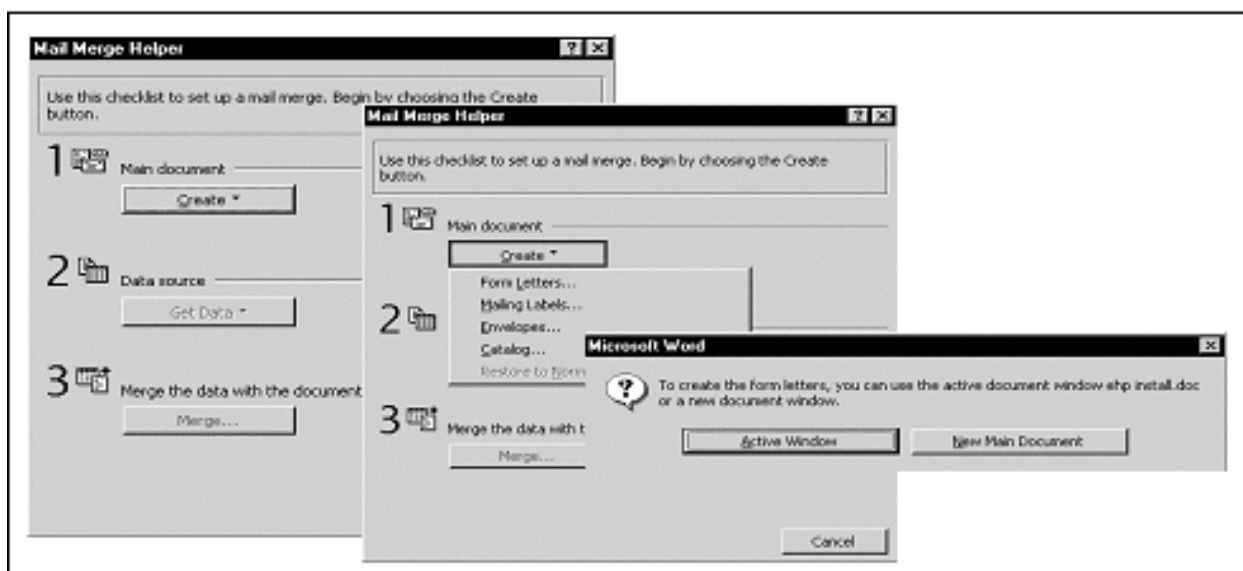

Figure 6-62: Check the Health Summary Template, Steps 2-4
3. Click the Create button. A dropdown menu will appear (Figure 6-62). Click the Forms Letters option. A dialog box will open.